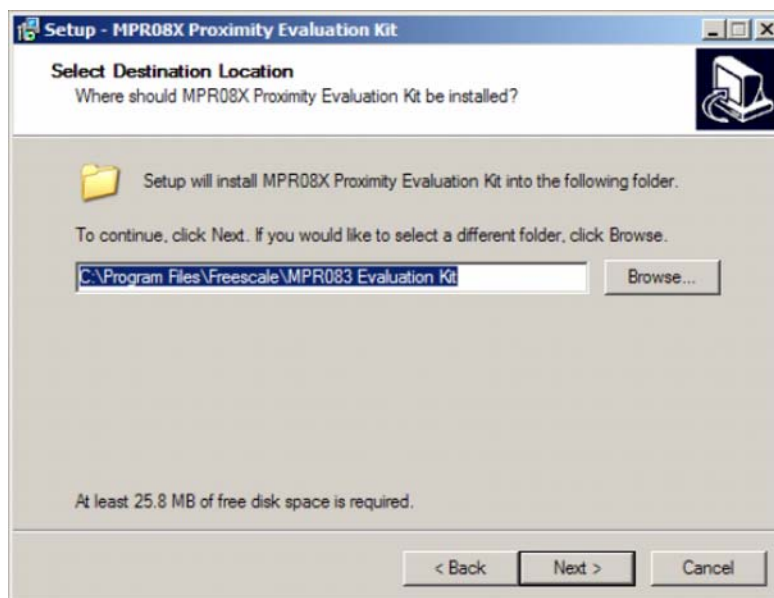

Figure 3. Destination Folder
3. The user must leave the destination folder as specified. Select "Next" (Figure 3).